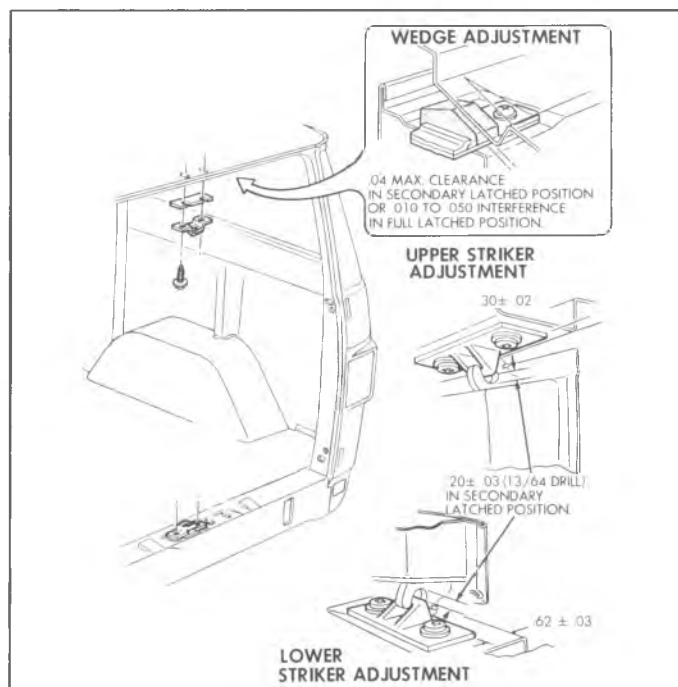

Fig. 34G—Rear Door Striker and Wedge Adjustment
1. Adjust striker by adding or deleting shims as necessary to obtain dimension as shown in figure 34G. This dimension can be checked by applying grease to the latch and slowly closing door until striker fully engages latch. Then open door and measure from grease impression to bottom of latch slot. Torque to specifications.
2. Adjust door wedge by adding or deleting shims as necessary so that wedge contacts ramp on body when door is closed. See figure 34G.